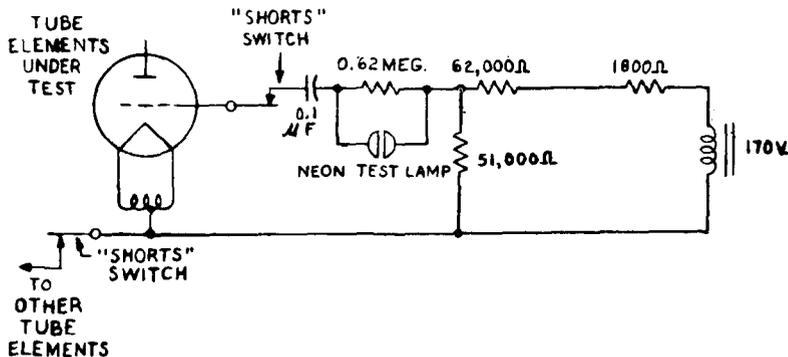

Fig. 1 - Shorts Test Circuit
**2.16 SHORTS Test Switch:** On a 6-position selector switch designated SHORTS, five steps are provided to make short-circuit tests between various electrodes of the tube under test, using the neon lamp test circuit indicated in Fig. 1. This shorts test may be made with the tube filament (or heater) on or off, but usually is made with the filament (or heater) heated. In the sixth position labeled TUBE TEST the neon lamp short test circuit is disconnected and the tube under test is connected for indicated transconductance, cathode (filament) activity, and other tests.